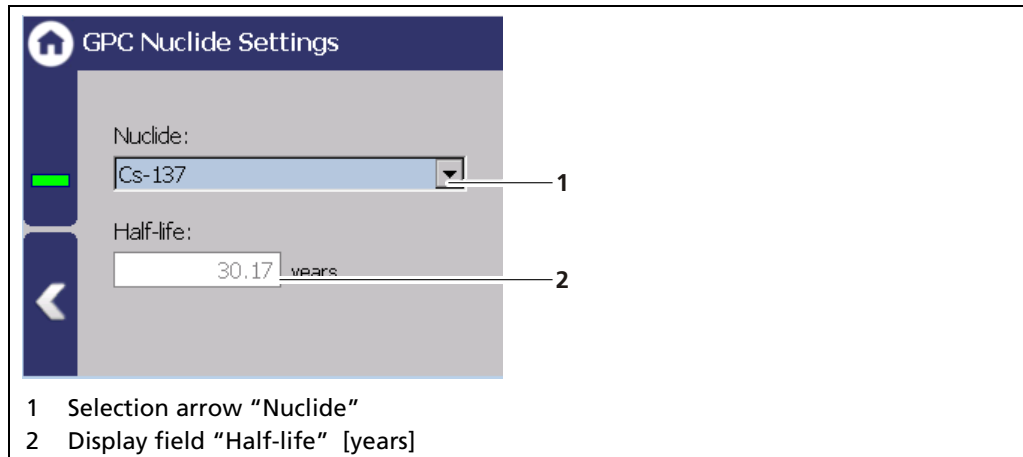

Fig. 81 GPC Nuclide Settings
Under "GPC Settings" the isotope of the source for gas density measurement can be selected (Fig. 81, item 1). The half-life time of the isotope is shown in the display field (Fig. 81, item 2). It is possible to set different nuclides for GPC and level measurement.